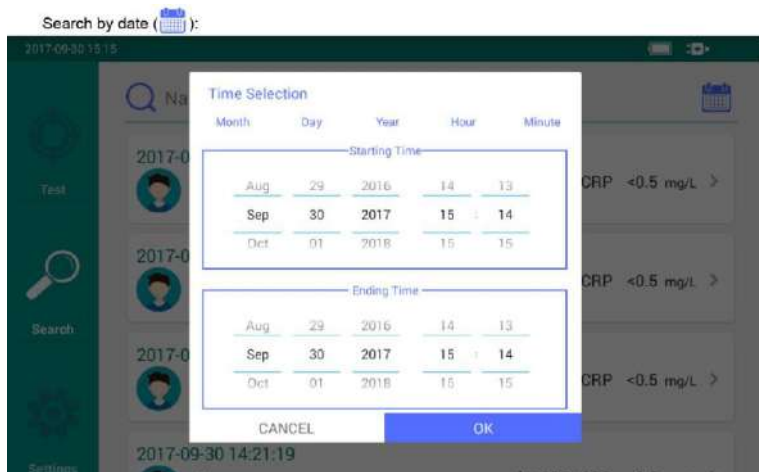

Fig.3-6 Search by Date & Time
2) Select required Date & Time (Fig.3-6).